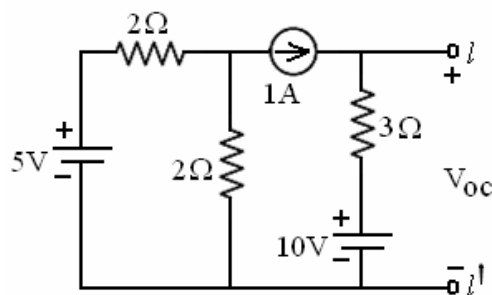

Figure 3
b) What load resistance must be connected across the terminals $l-l'$ of the below circuit (shown in Figure 3) to get maximum power. [7+8]